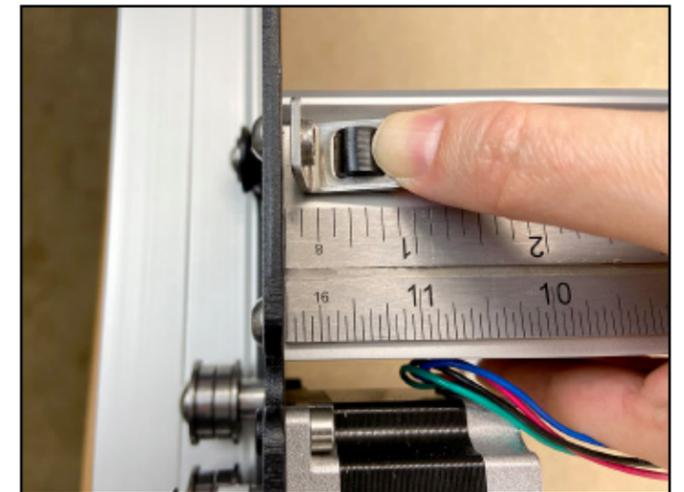

Figure 5-10
11. Adjust the amount of belt you feed through the second belt clip so that when it is laid flat against the X-rail (with the slack removed, but without stretching it), a 1/8-inch gap exists between the belt clip and the Y2-carriage. Ensure the teeth of the bottom few inches of belt interlock with the top. See **Figure 5-10**.